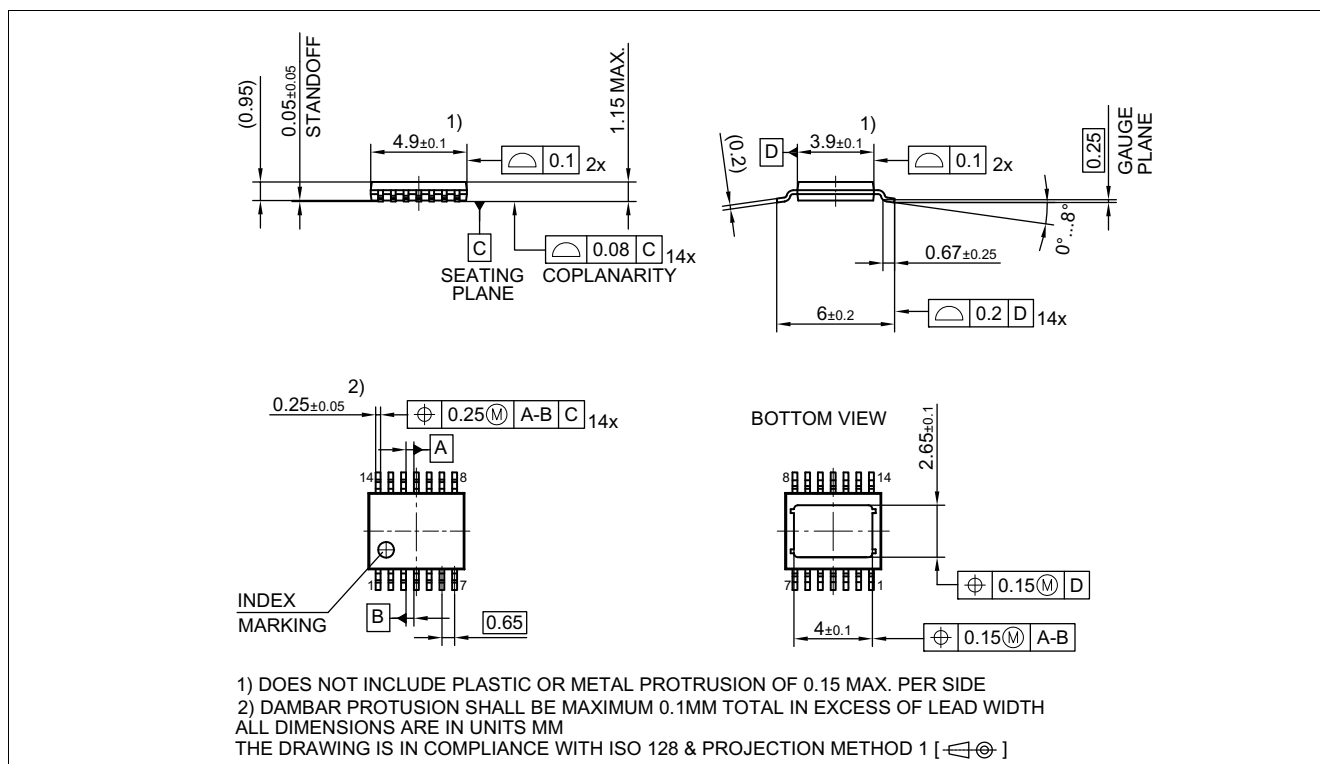
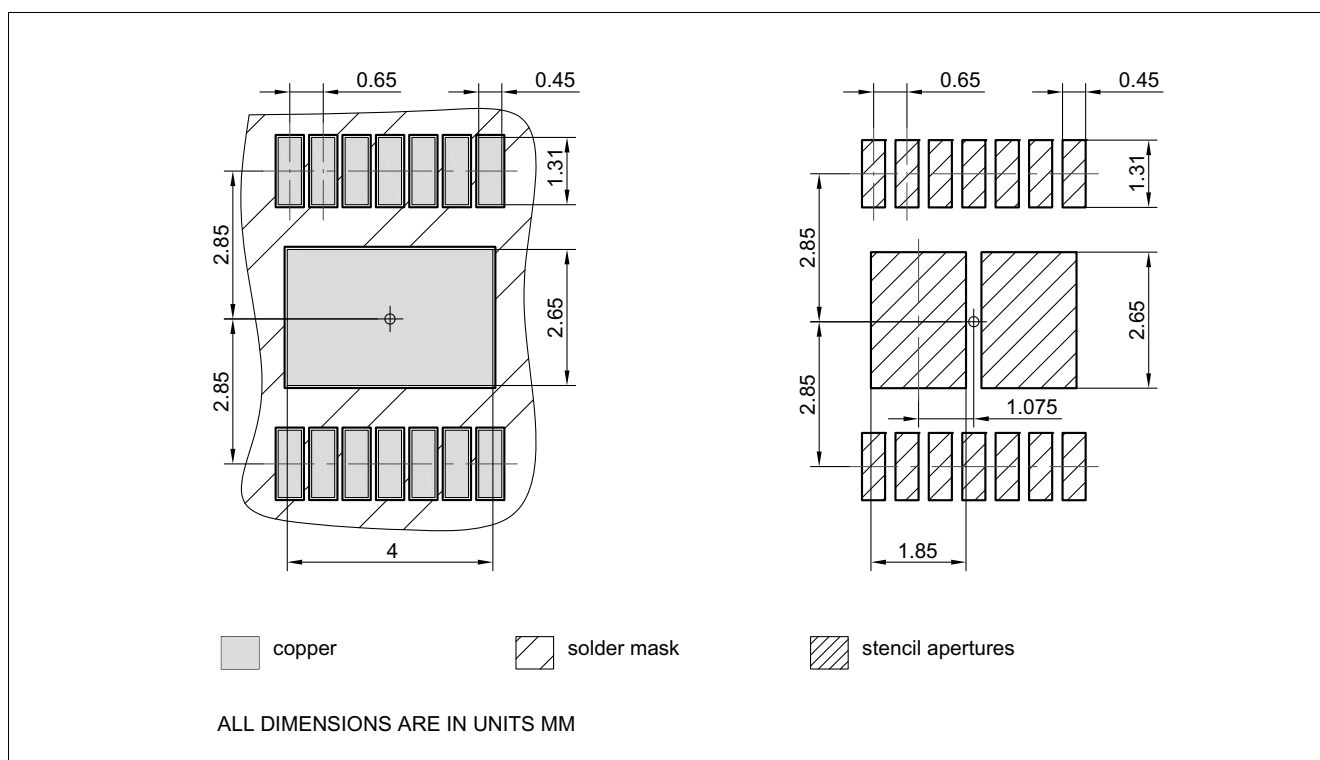

Figure 43 PG-TSDSO-14 (Thin (Slim) Dual Small Outline 14 pins) Package Outline
Figure 44 PG-TSDSO-14 (Thin (Slim) Dual Small Outline 14 pins) Package pads and stencil
1.01 , 2019-06-26	<p>Chapter 9.2 updated (2 V → $V_{DS(OLOFF)}$)</p> <p>General: updated (ReverSave™ → ReverseON)</p> <p>Figure 1 updated</p> <p>Chapter 1 updated ((inserted headline "Product Validation"), (Qualified in accordance with AEC Q100 grade 1 → Qualified for automotive applications. Product validation according to AEC-Q100 Grade 1.))</p> <p>General: updated Product Name (PROFET™+2 → PROFET™+2 12V)</p> <p>Page 1: updated figure product</p> <p>Table 23 updated punctuation</p> <p>Chapter 9.3.1 updated (typo)</p> <p>Page 1: updated (Package PG-TSDSO-14-22 → Package PG-TSDSO-14)</p> <p>Figure 29 updated</p> <p>Figure 43 updated (PG-TSDSO-14-22 (Thin (Slim) Dual Small Outline 14 pins) Package Outline → PG-TSDSO-14 (Thin (Slim) Dual Small Outline 14 pins) Package Outline)</p> <p>Figure 44 updated (PG-TSDSO-14-22 (Thin (Slim) Dual Small Outline 14 pins) Package pads and stencil → PG-TSDSO-14 (Thin (Slim) Dual Small Outline 14 pins) Package pads and stencil)</p> <p>Table 1 updated ((Symbol: $I_{VS(SLEEP)}$ → $I_{VS(SLEEP)_{85}}$), (Parameter: Minimum Overvoltage protection ($T_J = 25\text{ °C}$) → Minimum Overvoltage protection ($T_J \geq 25\text{ °C}$))</p> <p>P_9.6.0.6 updated (Note or Test Condition: removed unnecessary line-break)</p>